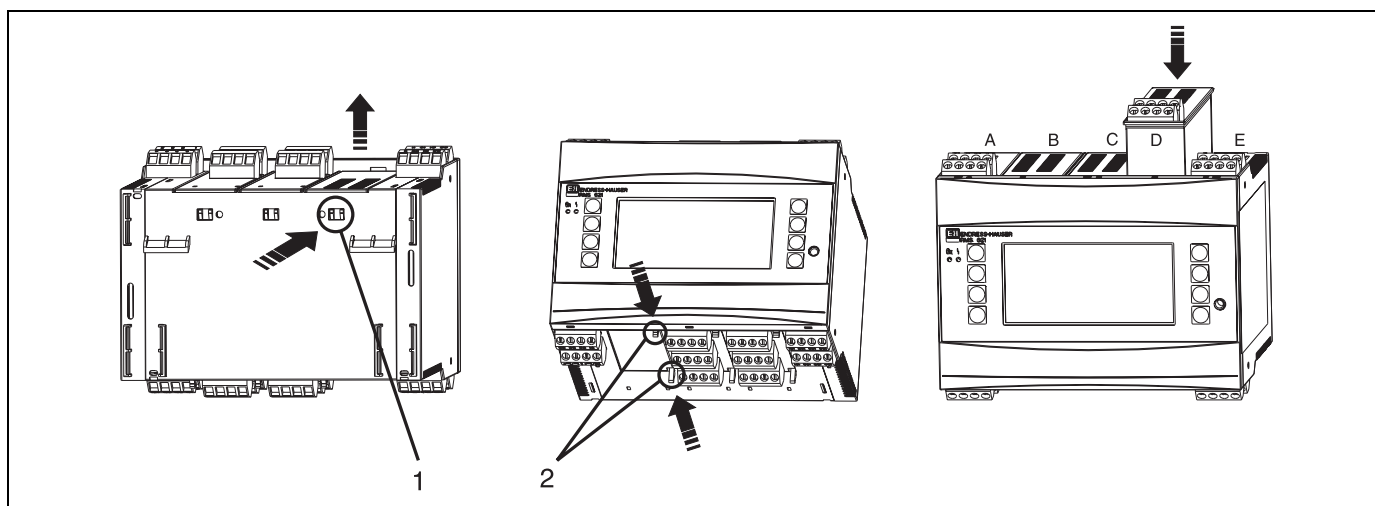

Fig. 5: Installing an extension card (example)
You can equip the device with various extension cards. A maximum of three slots are available in the device for this. The slots for the extension cards are marked with B, C and D (→ Fig. 5) on the device.
2. Remove the blanking cover from the slot (B, C or D) of the basic unit by pressing together the catches on the bottom of the Energy Manager (see Fig. 5, item 2), while at the same time pressing in the catch on the rear of the housing (e.g. with a screwdriver) (see Fig. 5, item 1). Now you can pull the blanking cover up out of the basic unit.
3. Insert the extension card into the basic unit from above. The extension card is not correctly installed until the catches on the bottom and rear of the device (see Fig. 5, items 1 and 2) lock into place. Ensure that the input terminals of the extension card are on top and the connection terminals are pointing to the front, as with the basic unit.